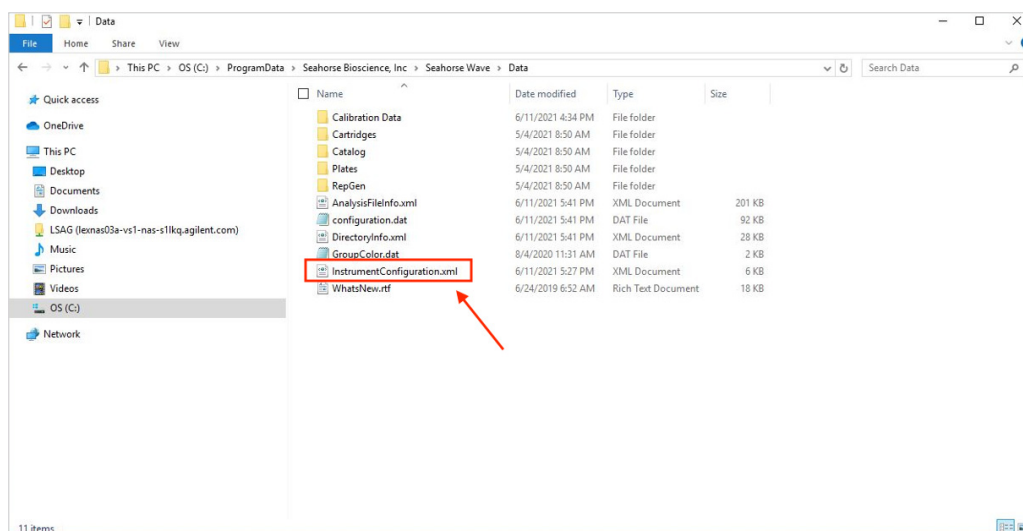

Figure 1. The **Instrumentconfiguration.xml** file location (C:\ProgramData\Seahorse Bioscience, Inc\Seahorse Wave\Data).
- 4 Go to: C:\ProgramData\Seahorse Bioscience, Inc\Seahorse Wave\Data (Figure 1) and copy the **Instrumentconfiguration.xml** file to your external storage device.